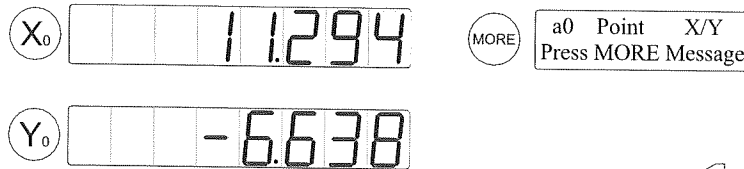

Figure 2-77
- e. Press the  key to construct the new feature. The new Point feature will be added to the bottom of the feature list and its data will be displayed as in figure 2-77.